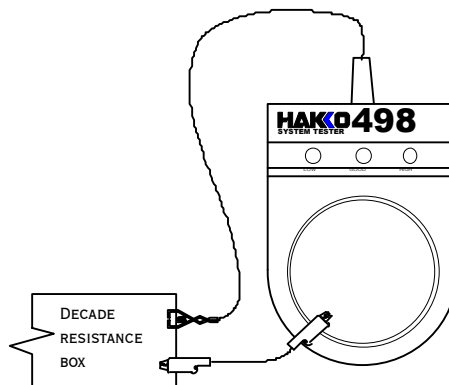

FIGURE 1. TEST SETUP.
2. Set the decade resistance box per Table I and connect it between the clip on the 498 lead and one end of the test lead (see Figure 1).